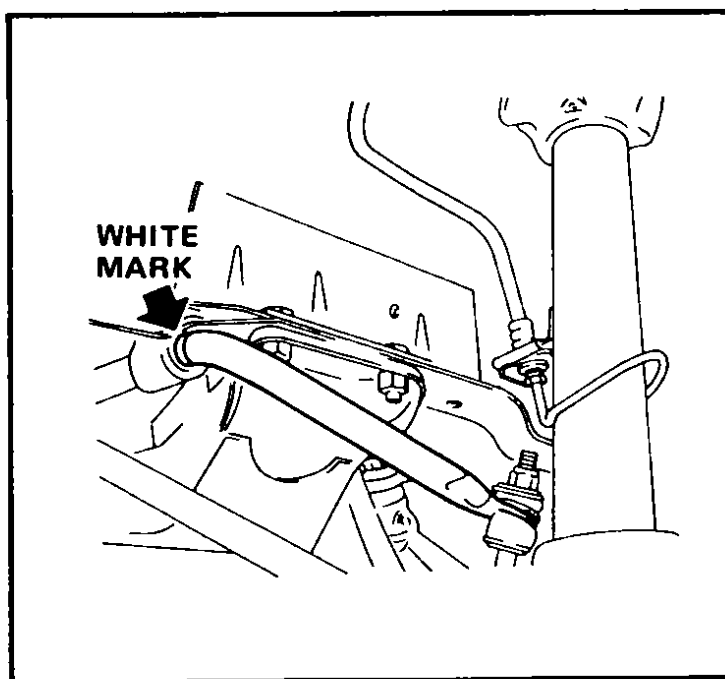

Fig 126 Stabilizer position
- 4 Install the stabilizer on the tension rod brackets and tighten the bolts. If the stabilizer is correctly installed, the white mark painted on the stabilizer bushing seat can be seen from both sides of the car, Fig 126